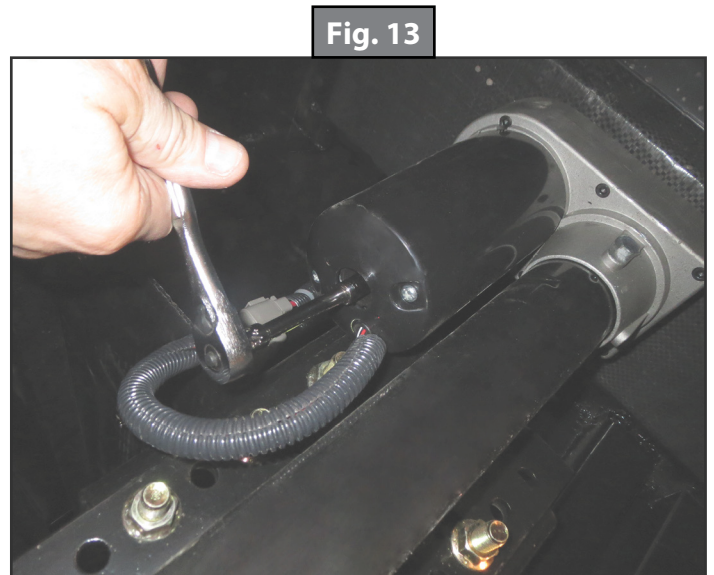

Fig. 13
4. Turn override until the jack extends or retracts to desired position (Fig. 13).